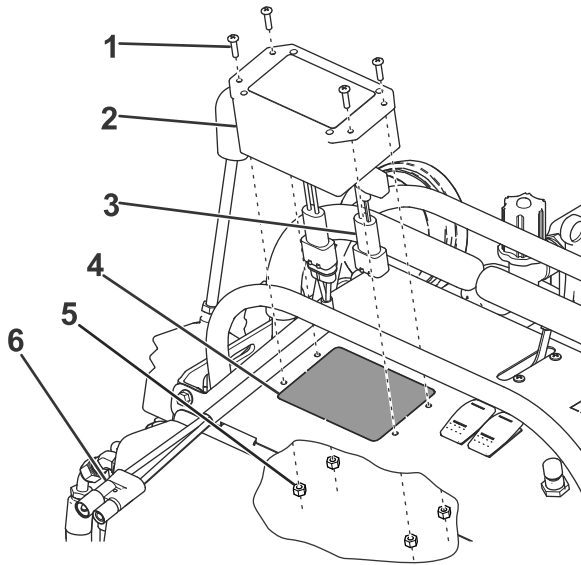

Figure 23
1. Remove the knockout panel on the control panel (Figure 23).
2. Insert the controller into the opening and secure it with 4 bolts (#10) and nuts as shown in Figure 23.